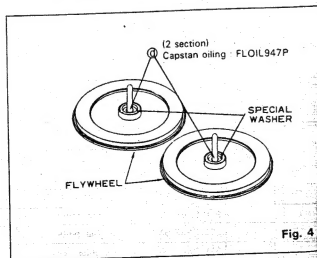

Fig. 4
- (3) Replace the belt with a new one.
- Replace the flywheel with a new one. (Refer to Fig. 4).
- *When replacing the flywheel, apply FLOIL947P to Section ③.